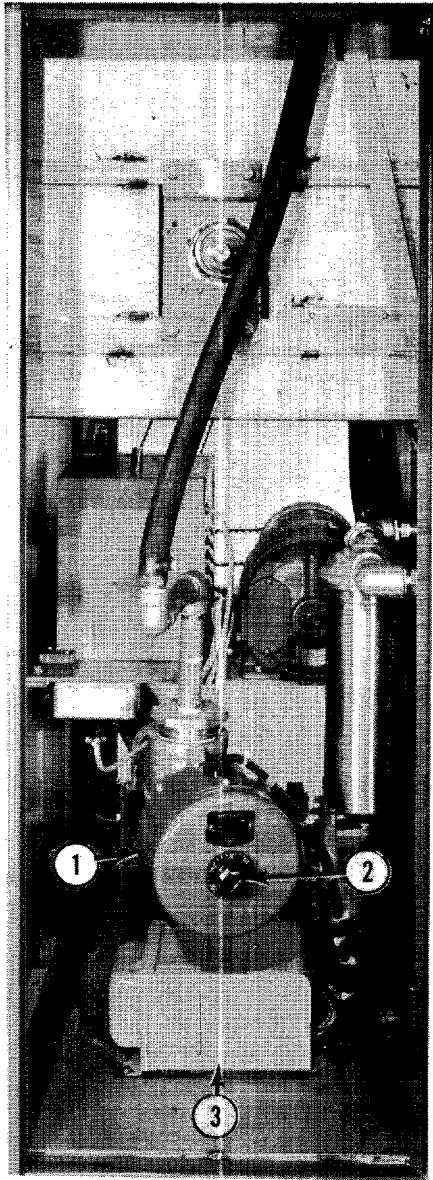

Figure 11. Auxiliary Drum Dryer Heater
The 25-amp, three-element electrical heater, which is located in the back side of the dryer base, is thermostatically controlled. The thermostat knob on the front of the heater housing is readily accessible after opening the door on the rear of the dryer cabinet. See Figure 11. The knob can be set between 60F and 250F. In addition, there is a pilot light, located on the take-off end of the dryer cabinet near the front just beneath the other electrical controls, that glows when the three heater elements are operating.
1.2.12.5 Electrical System. Elements for the water heater require 208-volt, 3-phase, 60-cycle, electrical service. Other components in the drum dryer use 110-volts which is furnished by a step-down transformer located just under the heater in the base of the dryer cabinet. See Figure 11. The power cord has a 208-volt four-prong plug. There is a receptacle for this plug on the take-off end of the air dryer cabinet. The fourth (green) wire in the cord and receptacle provides grounding connections only. Details of the electrical system including a schematic and a wiring diagram are shown in Drawing No. 1-120-E-1319 which is included in Appendix B in this manual.
- h. Temperature Control. The water heater in the base of the dryer cabinet has an adjustable thermostat that can be set from 60F to 250F. The control is shown in Figure 11 .